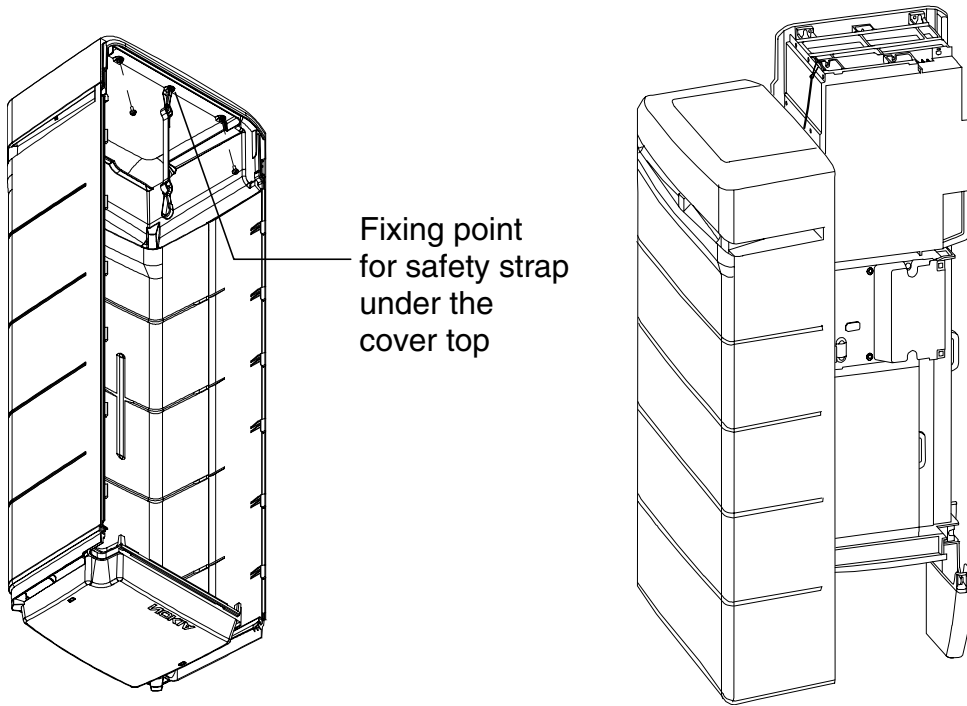

Figure 1. Safety strap on the MetroSite EDGE BTS cover
- Figure 1. Safety strap on the MetroSite EDGE BTS cover **16**
You can also remove the cover completely to place it on the floor. Remove the safety strap before pulling the cover away (see Figure 1).